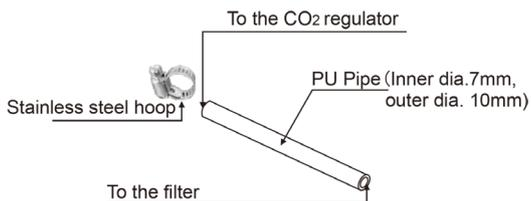

Figure 2
3. Set the secondary flow control valve to 0.08~ 0.1MPa (0.8 - 1 bar) (as shown in figure 2). It may cause the leak of CO2 gas if the pressure is too high. High CO2 concentration will do harm to your health and may cause asphyxia and death. Maintenance is required if the inline tube falls off.